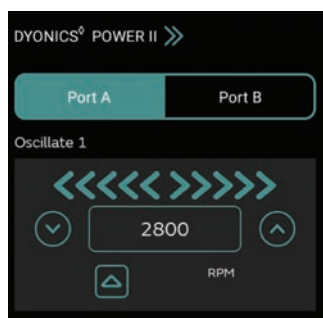

Figure 41. DYONICS POWER II - Oscillate Mode 1
4. To select the DII medical device view, tap on the >> arrows at the top (Figure 41).